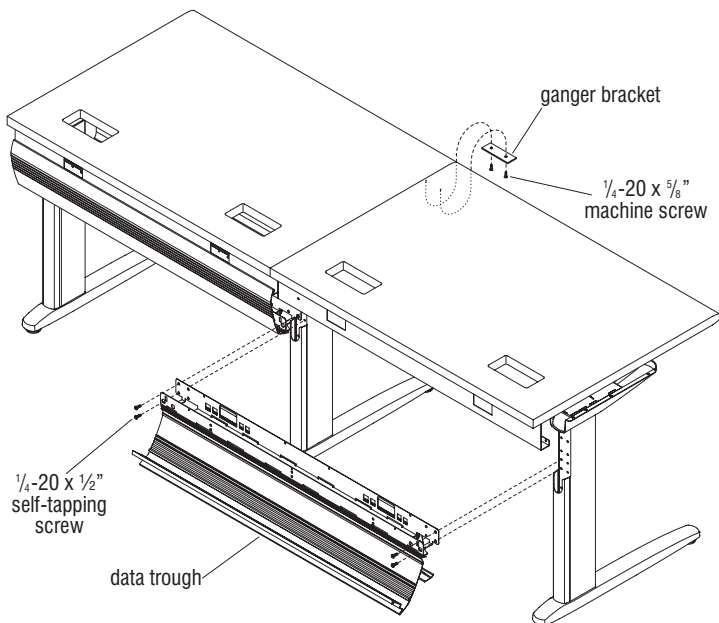

Figure 6
7. Attach data trough to legs using 1/4-20 x 1/2" self-tapping screws (Figure 6).
8. Attach a ganger bracket to front (user) side of each table-to-table connection using two 1/4-20 x 5/8" machine screws as illustrated (Figure 6).